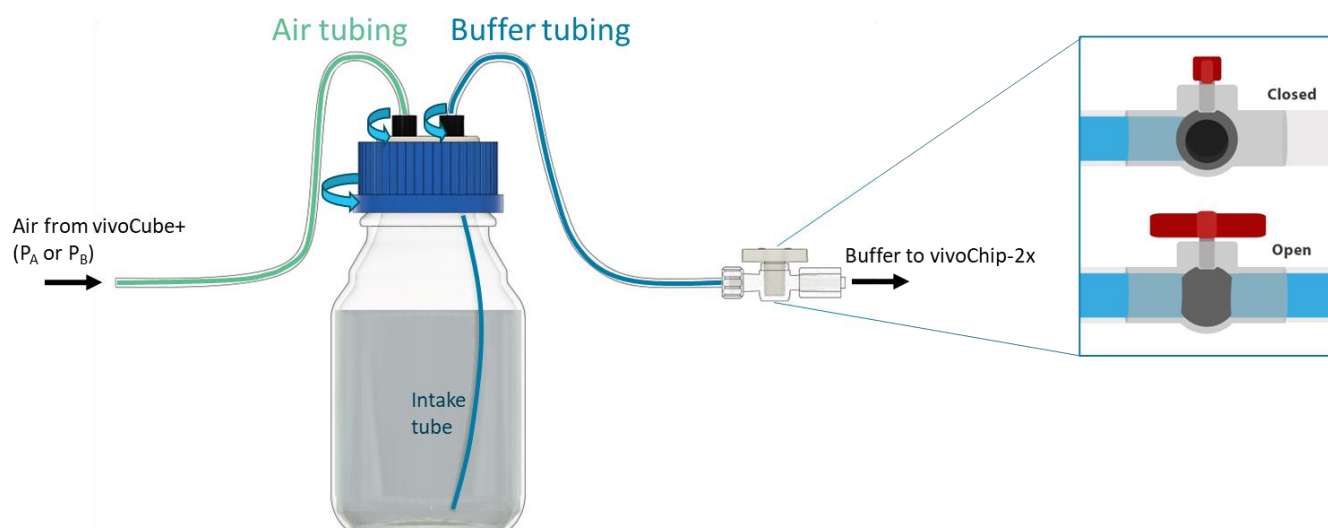

Figure 5: Assembly of the buffer bottle air and buffer tubes
- 1.2 The buffer bottle and ported cap will need to be assembled before the system is used for the first time. Refer to Figure 5 for these steps.
- a Connect the buffer tubing (short tubing with stopcock from the Bottle Kit) to the bottle cap port above the plastic intake tube inside the bottle (right-hand side Figure 5) by screwing the black connector into the white plastic port on the bottle cap. Tighten it until snug.
- b Connect the air tubing (long tubing from the Bottle Kit) to the other bottle cap port (left-hand side of the bottle in Figure 5) by screwing the black connector into the other white plastic port on the bottle cap. Tighten it until snug.
- 1.3 Familiarize yourself with the open and closed positions of the stopcock shown in Figure 5.
- 2.5 Close the stopcock at the end of the buffer tubing (refer to Figure 5 if you are unsure how to do so).
- d Open the stopcock at the end of the buffer tubing (refer to Figure 5 if you are unsure how to do so).